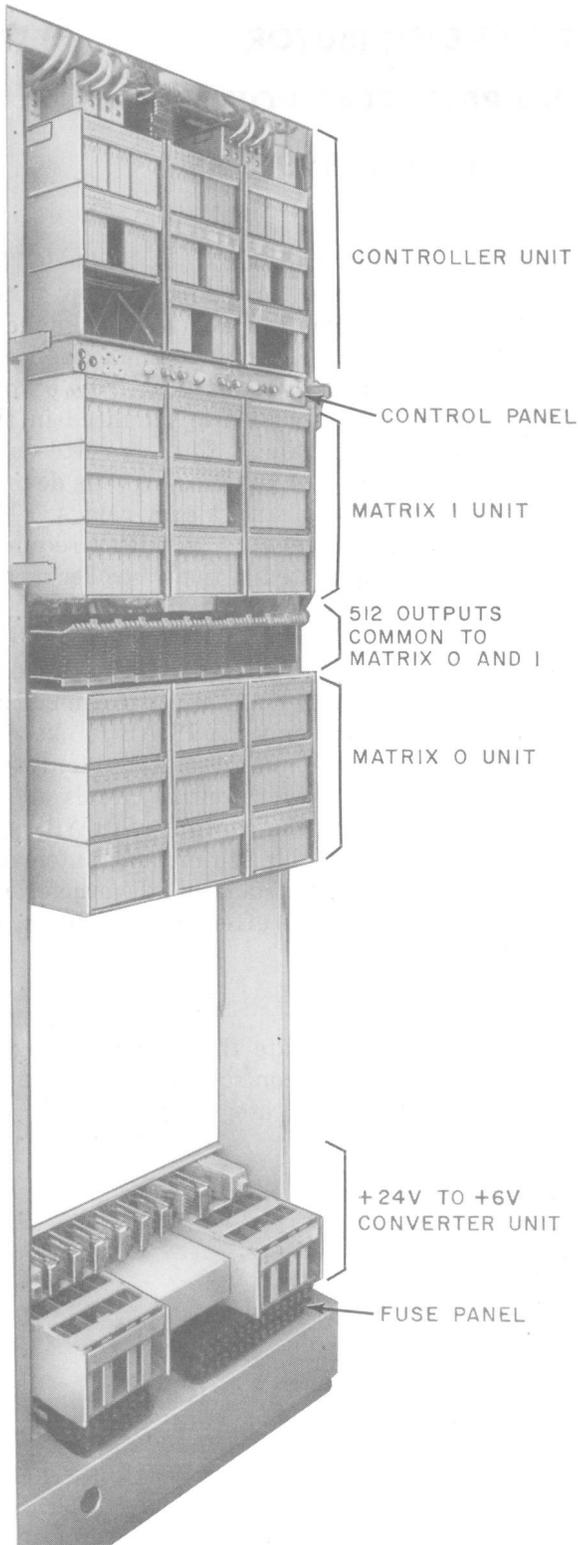

Fig. 1—Supplementary Central Pulse Distributor Frame
1.03 The SCPD frame (Fig. 1) is a peripheral unit intended to supplement the 512 output